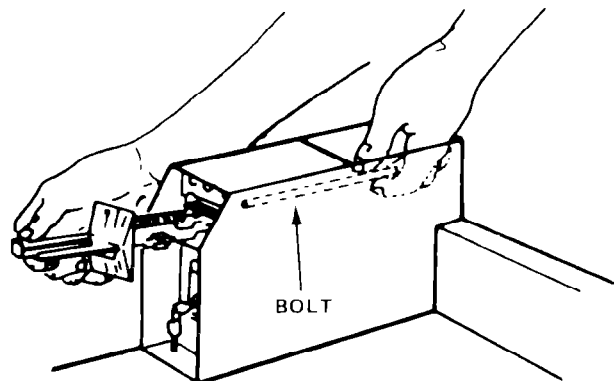

FIGURE 2
3. Secure the coin slide mechanism with the $\frac{3}{16}$ " bolt from inside the meter case (See Figure 2).